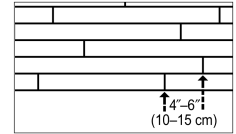

Figure 4 Preferred Alignment
- Be attentive to staggering the ends of boards at least 4"-6" (10-15 cm), when possible, in adjacent rows (Figure 4). This will help ensure a more favorable overall appearance of the floor.